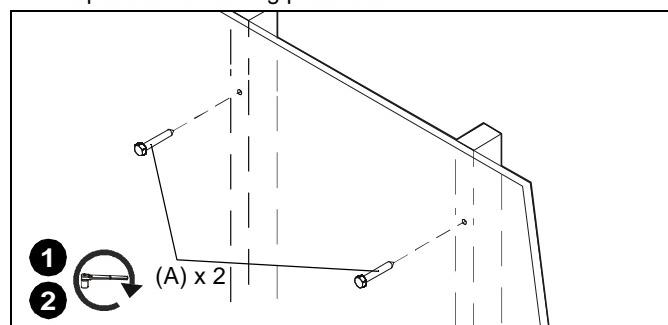

Figure 24
1. Use one 1/4 x 2-1/2" lag bolt (A) through product and into pilot hole. (See Figure 24)